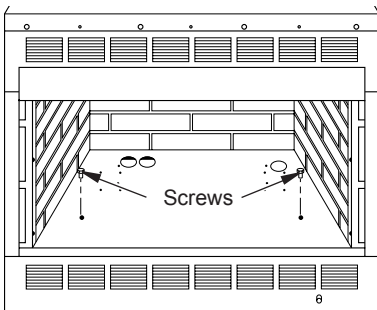

Figure 8 - Removing Screws from Firebox Bottom
- a. Remove 4 screws that secure bottom of firebox (see Figure 8).